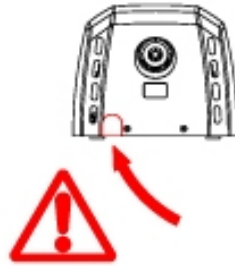

Figure 12
- It is also very important to ensure that once mounted and screwed to the base the casing has the plastic protector correctly placed on the lower inverted "U" shaped window (Figure 12).